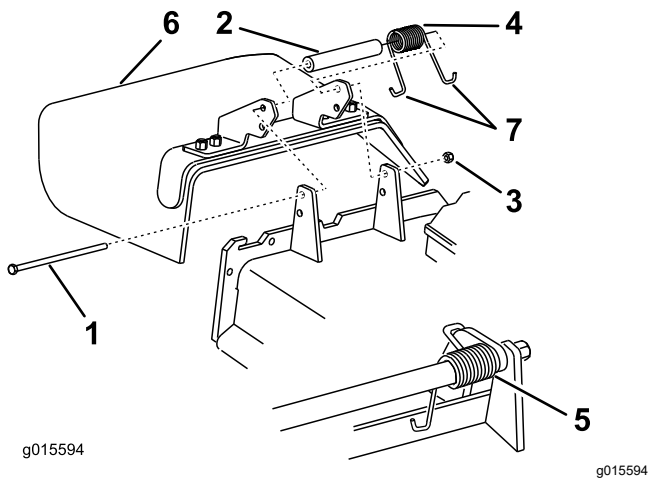

Figure 97
1. Remove the locknut, bolt, spring, and spacer holding the deflector to the pivot brackets (Figure 97).
**Note:** Make sure that 1 J-hook end of spring is installed behind deck edge before installing the bolt as shown in Figure 97.
6. Place 1 J-hook end of the spring around the grass deflector (Figure 97).